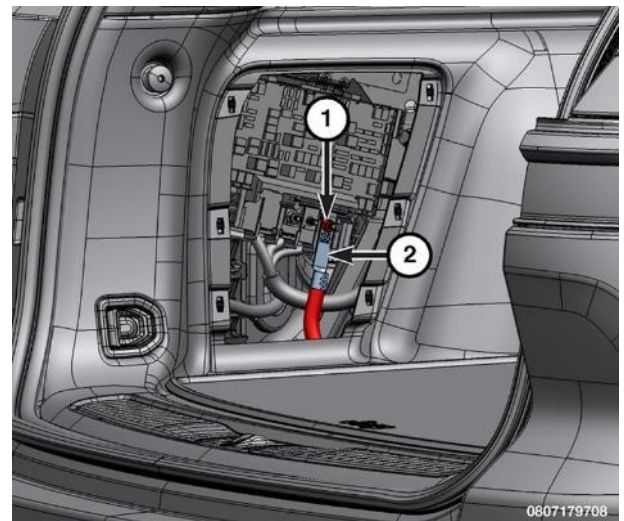

Figure 18 – 12-Volt Cable at Rear PDC
- q) Remove the 12-volt fastener (1) and cable (2) from the rear PDC and cover the exposed end with an insulating cap from the Covers, HEV Battery Terminal 2035100082. If a cover is not available, a finger from an old insulated safety glove can be cut out and used to cover the terminal. The 12-volt system should be powered down completely (Figure 18).